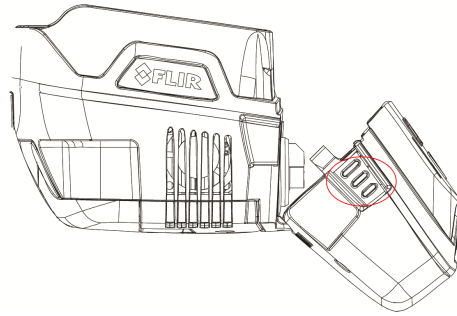

Figure 8-7: Squeeze tabs to loosen TD
Step 1: Using your thumb and index finger, press the silver tabs on each side of the TD (Figure 8-7).